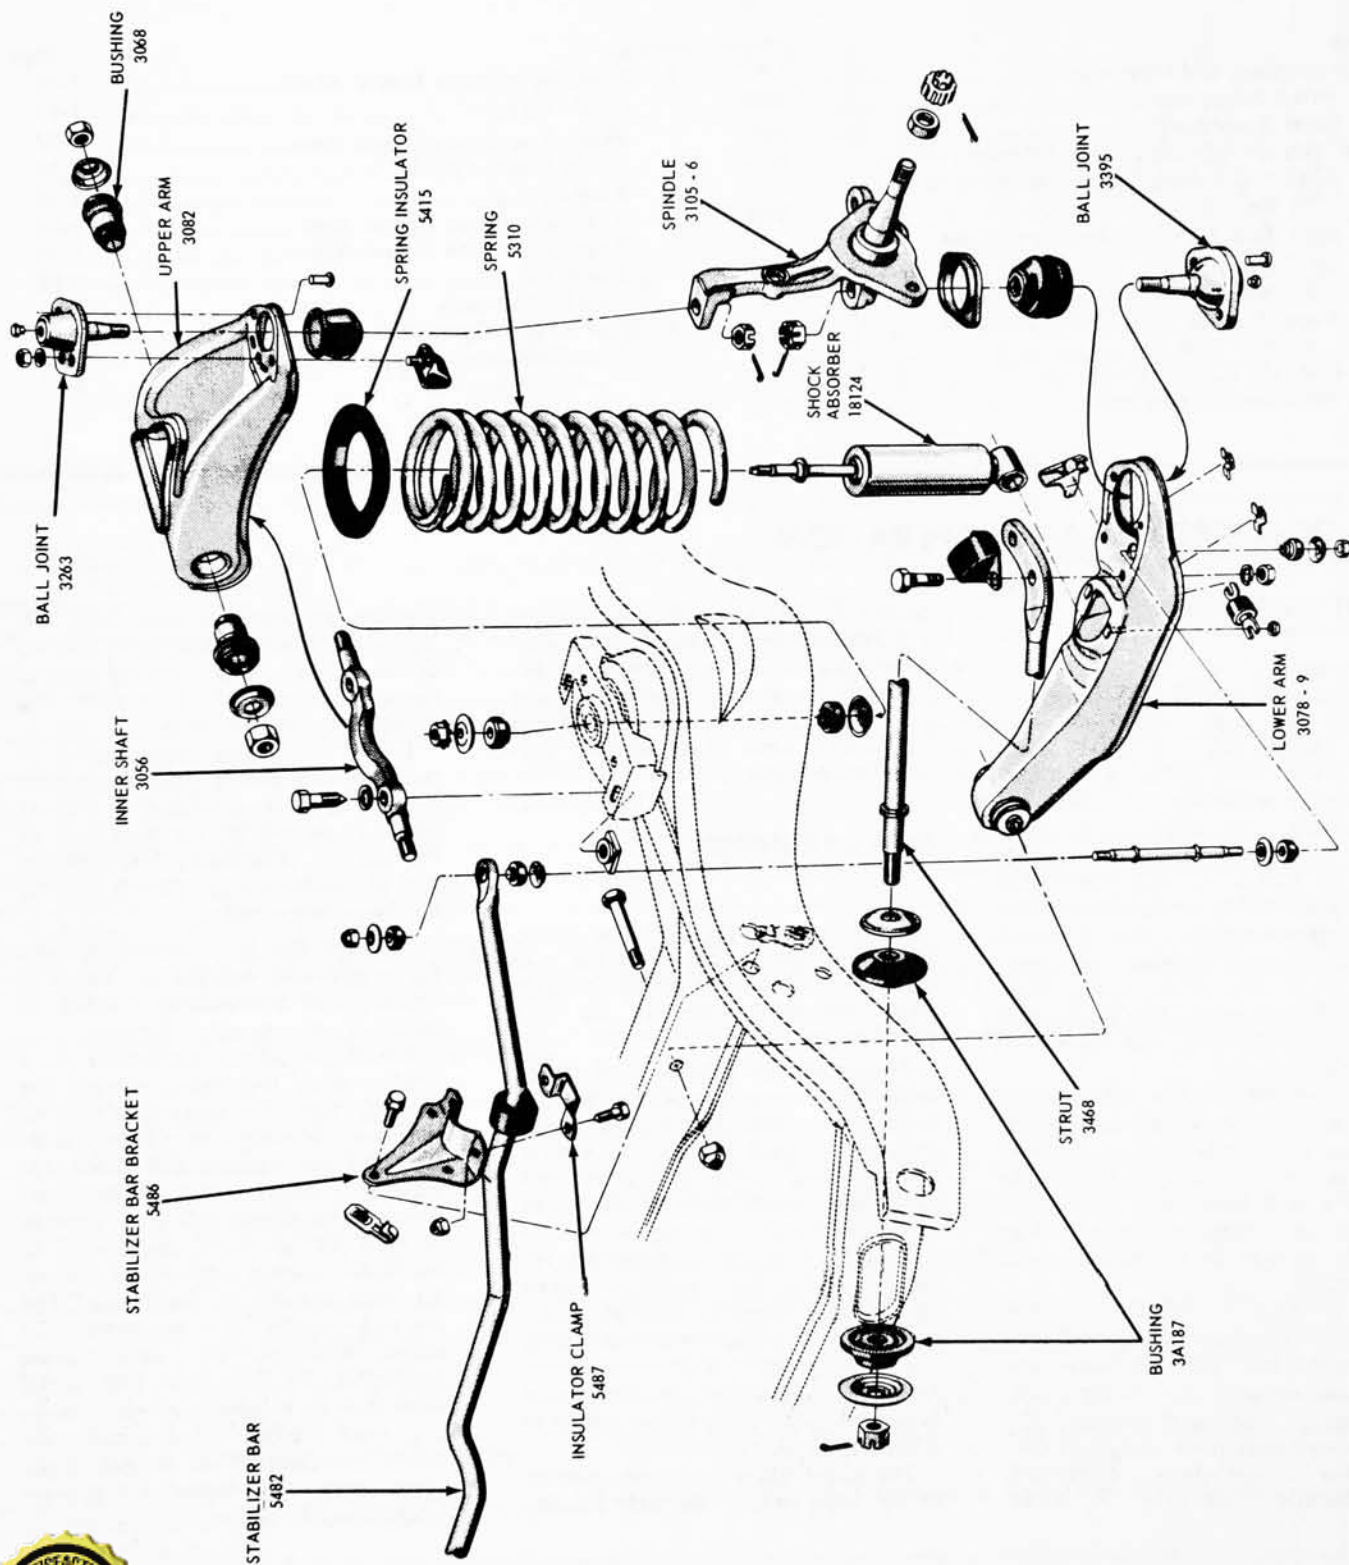

FIG. 1—Front Suspension Disassembled
Each front wheel rotates on a spindle. The upper and lower ends of the spindle are attached to upper and lower ball joints which are mounted to an upper and lower arm respectively. The upper arm pivots on a bushing and shaft assembly which is bolted to the frame. The lower arm pivots on a bolt in the front crossmember (Fig. 1). A coil spring seats between the lower arm and the top of the spring housing. A double action shock absorber is bolted to the arm and the top of the spring housing.
The pivoting action of the suspension arms provides an **up-and-down** movement for the spindles and wheels as required by bumps or depressions in the road surface. The coil springs and shock absorbers control this up-and-down movement. The stabilizer bar (Fig. 1) is at-
2. Remove the link-to-stabilizer bar retaining nut, washers, and insulators, and disconnect the link from the bar (Fig. 1).
2. Remove nuts, washers, and bolts attaching the strut and rubber bumper to the lower arm (Fig. 1).